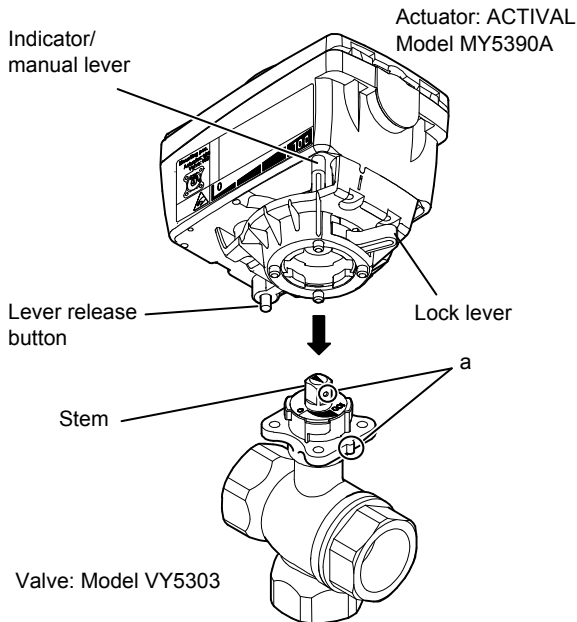

Figure 5. Mounting Model MY5390A actuator on Model VY5303 valve
The actuator shaft is at 100% (in fully open position) for shipment. Make sure the indicator/manual lever is positioned at "100" when the actuator is unpacked. (See Fig. 5.)
- The actuator can be horizontally rotated every 90 degrees to fit into the valve mounting position (4 mounting positions). Make sure the positions of the actuator and the valve. (see Fig. 5.)
When valve is in 100 % position, the hole on the side surface of the valve stem faces in the same direction as the raised part of the valve joint surface points, as shown in 'a' in Fig. 5.